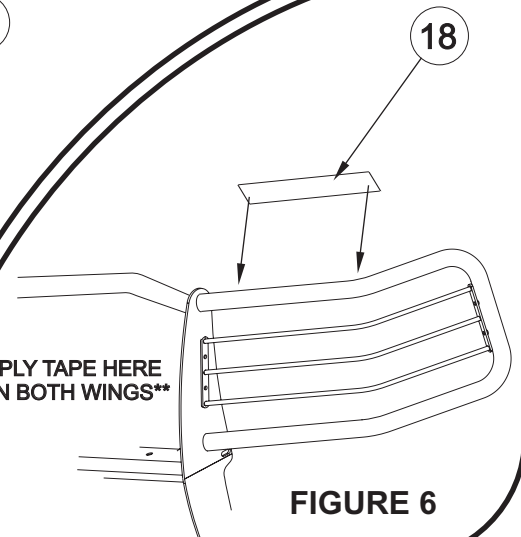

FIGURE 6
- STEP 10. If light glare is being experienced off the wings of the grille guard, anti reflective tape has been supplied to reduce glare. With headlights on, note where the reflection is concentrated on the wing. Clean the wing well with a non-abrasive cleaner (rubbing alcohol works the best.) Trim the anti-reflective tape to the appropriate size where the glare was located and apply tape. **SEE FIGURE 6.**